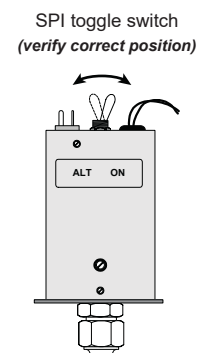
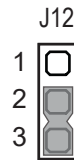

Fig. 2, Service Power Inserter (SPI)
Fig. 5, Location and setting of J12 on DM3
1. Verify Service Power Inserter (SPI) toggle switch is set to the ALT position (Fig. 2).
2. Verify the battery switch is set to the OFF position on XM2-300HP (0).
3. Loosen the captive fasteners and remove the Inverter Module from the chassis. On the DM3, locate and examine J12 on the DM3 module to verify the jumper connects pins 2 and 3 (see Fig. 5). After verification, reinsert and secure the Inverter Module.
4. Set the Inverter Module's battery switch to the ON position (1).
8. Set the Service Power Inserter (SPI) toggle switch to the ON position (Fig. 2).